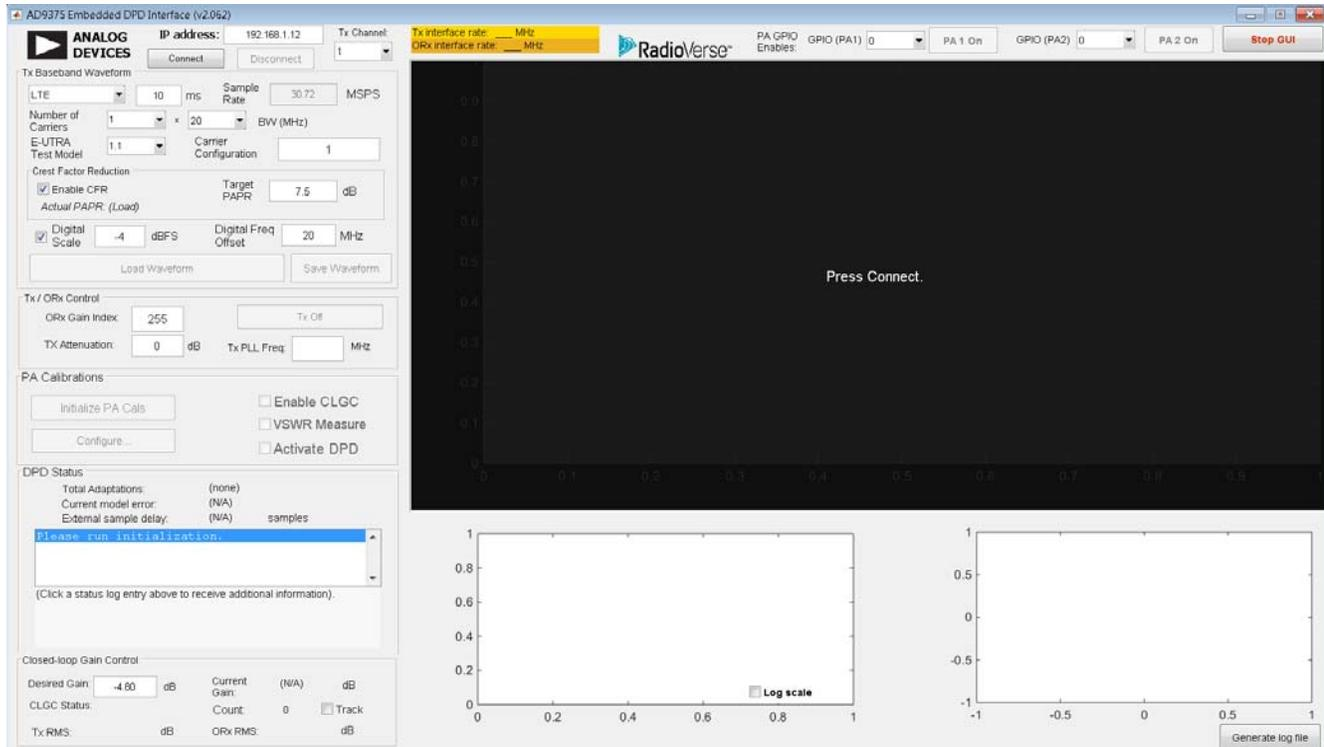
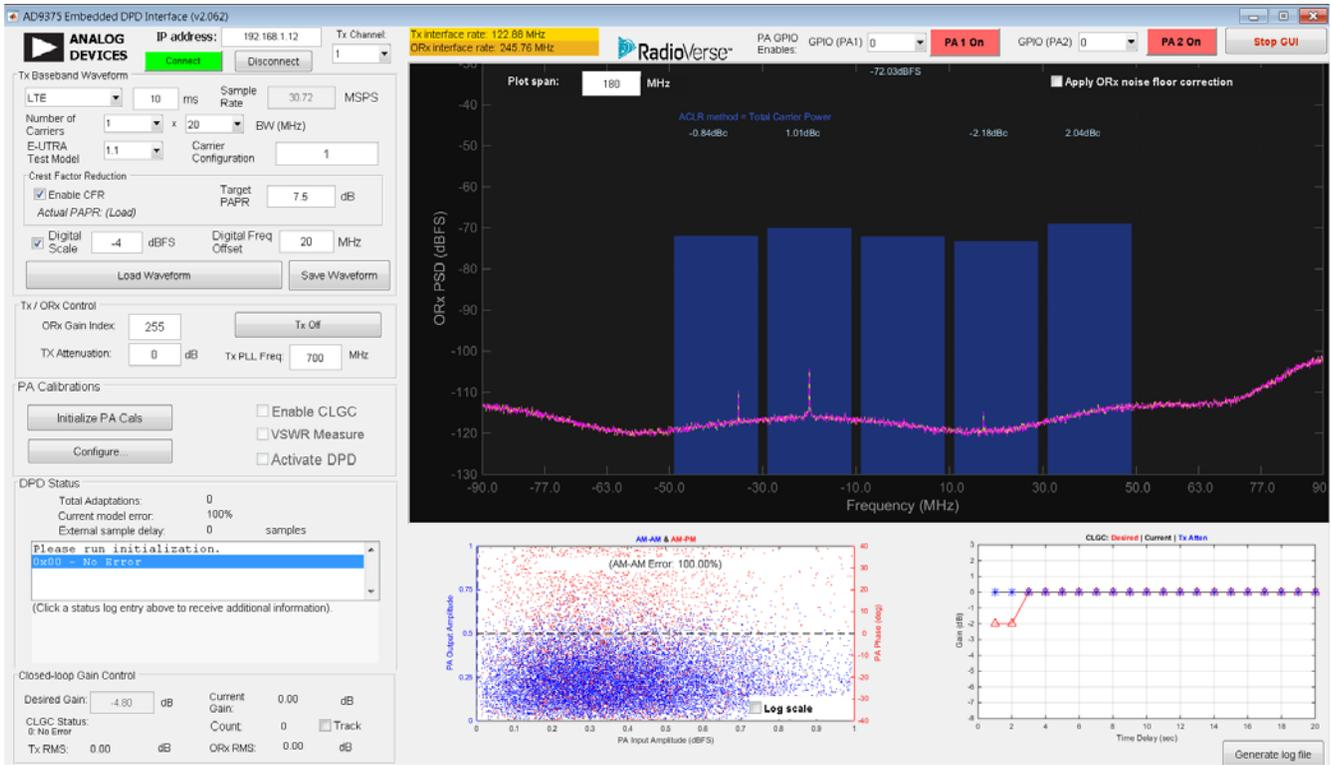

Figure 236. Initial DPD GUI Interface—Not Connected to Command Server
Figure 237. Initial DPD GUI Interface—After Connecting to Command Server
The digital predistortion (DPD) graphical user interface (GUI) is the primary evaluation tool for the DPD, closed-loop gain control (CLGC), and voltage standing wave ratio (VSWR) features. Figure 236 shows the initial DPD GUI, and Figure 237 shows the GUI when it is connected to the command server. All DPD functionality can be controlled from this DPD GUI. It also incorporates waveform generation, CLGC, and VSWR control.
2. Check the **Activate DPD** box for the DPD to begin the adaptation process (see Figure 236).
Refer to the two GPIO, GPIO (PA 1) and GPIO (PA 2), buttons shown at the top of Figure 237. These buttons control the GPIO pins, which in turn can control PA 1 and PA 2, respectively. Use the dropdown menus attached to the GPIO (PA 1) and GPIO (PA 2) buttons to assign the GPIO\_3P3 pins. Red indicates that the pin is currently disabled (0), and green indicates that the pin is toggled on (1). The text within the dropdown menu displays the status that the pin toggles to when clicked. Note that this is an optional feature, and the exact voltage reference or PA enabled signal must be derived from the 3.3 V GPIO pin.
The **Tx Channel** dropdown menu controls the channel currently displayed within the ACLR graph and also controls the individual settings (see Figure 236). Enabling or disabling the DPD and/or the closed-loop gain control (CLGC) can be done separately for both channels. Due to the multiplexed nature of the ORx, the **ORx Gain Index** is also common for both channels.
The **Tx / ORx Control** section controls some of the parameters for the Tx channel that were selected using the **Tx Channel** dropdown menu (see Figure 236).
The **Tx PLL Freq:** box within the **Tx / ORx Control** section controls the frequency of operation of the current Tx channel. Modifying this value while radio calibrations are running can lead to poor performance with other tracking calibrations. Reprogramming the device (or at least rerunning initialization calibrations at the new frequency of operation) is recommended in such cases. For reprogramming the device or rerunning the initialization calibrations, disconnect the digital predistortion (DPD) GUI and use the **TES** software or other methods (for example, Python scripts) to perform the necessary operations. Note that the DPD performance degrades with large frequency steps. For such cases, rerun the DPD initialization calibrations within the **PA Calibrations** section and then check off the **Activate DPD** box (see Figure 236).